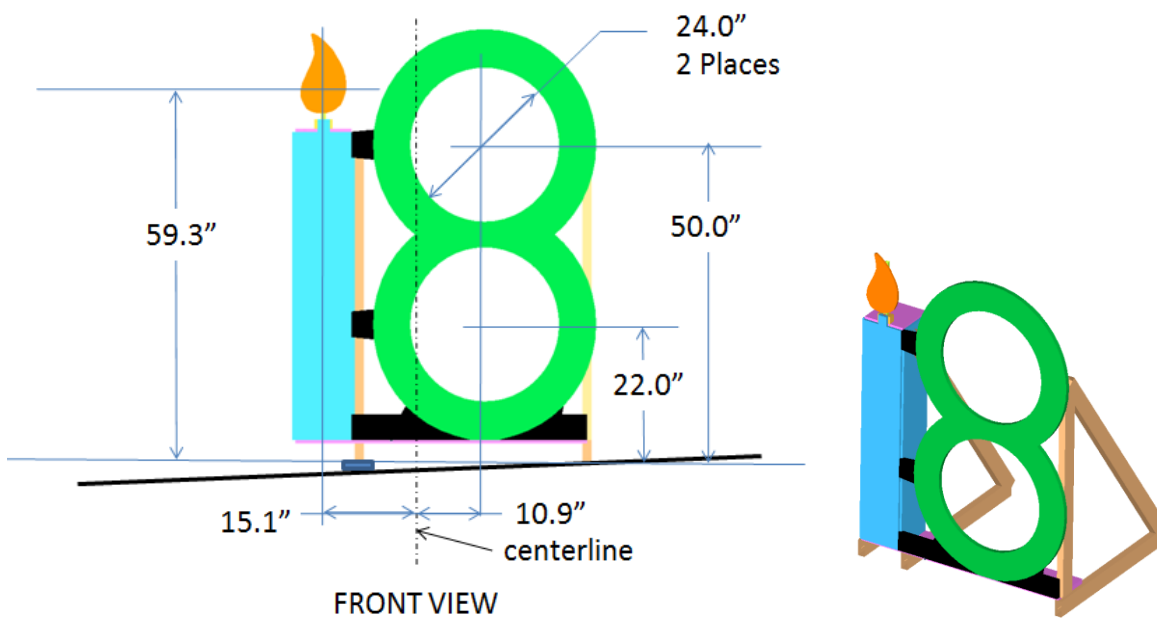

Figure 2. Target Description
- 8) The target is described in Figure 2. There are three targets that are formed to simulate the appearance of the number “18”. The point values for each target increase with difficulty (please refer to Rule 9). The lower circular 61 cm [24”] diameter opening receives points for having the ball completely pass through the opening. The upper circle 61 cm [24”] diameter opening receives points for having the ball completely pass through the opening. The third target is in the shape of a candle flame. Having the ball directly contact the flame is the way to receive points for this target. The flame is made out of 3/4” thick plywood. The flame is able to be knocked down if the ball comes in contact with the flame. It is hinged, but it utilizes a light spring latch to keep it upright. A direct hit of the flame will count as achieving the goal for this target. If the flame is knocked down by an indirect contact (candle base or other targets) no points can be awarded. Details of the construction of the target can be found on-line on the JPL Invention Challenge website.